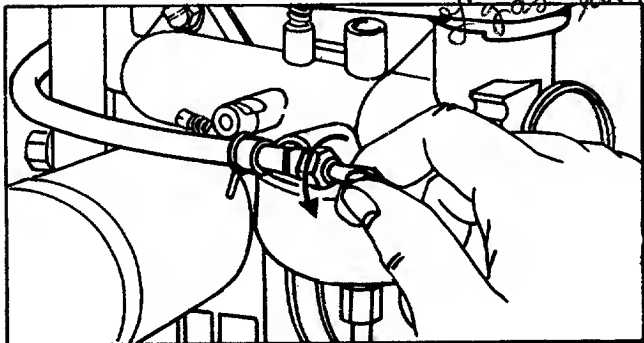

FIGURE 14. FUEL SHUT-OFF VALVE
- Step 1. Be sure the fuel shut-off valve is open. See figure 14.